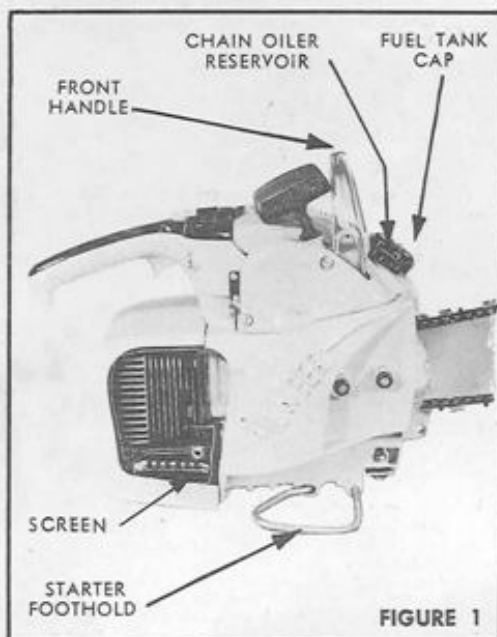

FIGURE 1
2. Fill fuel tank with properly mixed fuel as previously explained. Fill your chain oil reservoir with the recommended oil. Figure 1.